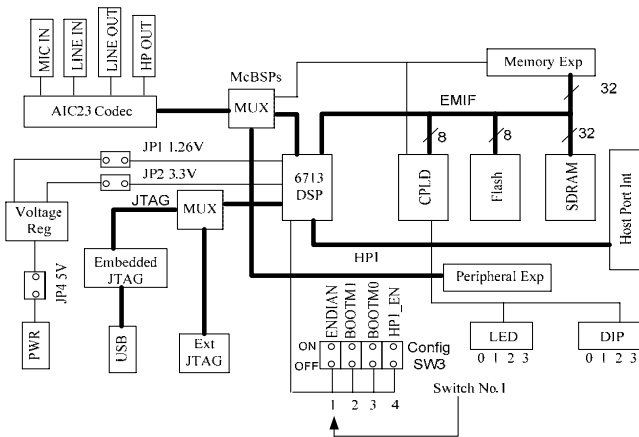

Fig. 1 Block diagram of the TMS320C6713 DSK board [12]
Digital signal processors such as the TMS320C6x family of processors are like fast special-purpose microprocessors with a specialized type of architecture and instruction sets suitable for signal processing [2]. The TMS320C6713 DSK board is powerful and relatively cheap, having the necessary supporting tools for real-time signal processing [2]-[11]. It includes the TMS320C6713 floating-point digital signal processor and a 32-bit stereo codec TLV320AIC23 (AIC23) for input and output (see Fig.1). The onboard codec AIC23 uses a sigma-delta technology that provides A/D and D/A [2]. The DSK board operates at 225MHz and it can be easily set to variable sampling rates of 8 to 96 kHz [2]. Four connectors on the DSK board provide input and output. They are: LINE IN for line input, MIC IN for microphone input, LINE OUT for line output, and HEADPHONE for a headphone output. Note that LINE OUT is multiplexed with HEADPHONE. The status of the four user dip switches on the DSK board can be read, which provides the user with a feedback control interface. For more information regarding the TMS320C6713 DSK board, refer to references [12], [13], [18]-[20].
1. Switch 1 in the Config SW3 as shown in Fig.1 must be placed in the **OFF** position [12], [14], [15].
1. Switch No.1 in the Config SW3 as shown in Fig.1, must be in the **ON** position.
4. Add the library file: **rts6701e.lib** for assembly language programming and add the library files: **rts6701e.lib, csl6713e.lib, dsk6713bsle.lib** for signal processing (i.e. input and output manipulation). For more clarity see Figs. 1 and 3.